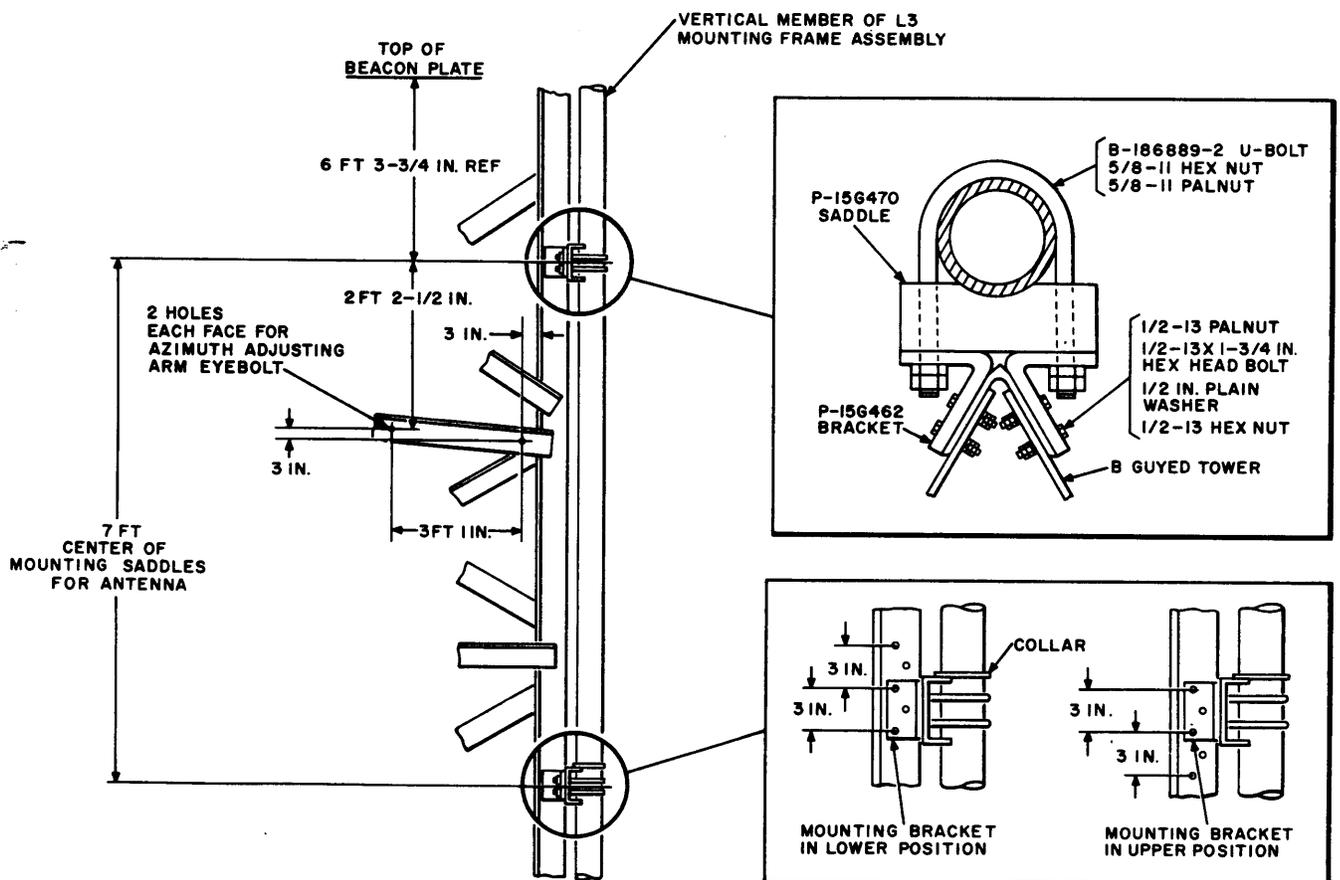

Fig. 9—Antenna Installation on AT-7728 B Guyed Tower
5.11 All installation procedures are shown in Fig. 9. Determine the location of the P-15G462 brackets. The brackets have an upper or lower position. Use the upper position when the vertical member of the mounting frame is to the left of the reflector center as viewed from the rear of the antenna. Use the lower position when the vertical member is to the right of the reflector center as viewed from the rear.